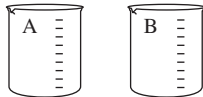

Figure P7.35 Coolants of varying concentration.
- 7-35.** A mechanical engineer needs to combine two coolants of differing concentrations as shown in Fig. P7.35. Coolant A is a 5% concentration and Coolant B is a 12% concentration. The resulting mixture must have a concentration of 10%. If the total volume of the mixture is V_T , the required volumes of the two coolants V_A and V_B satisfy the following system of equations: